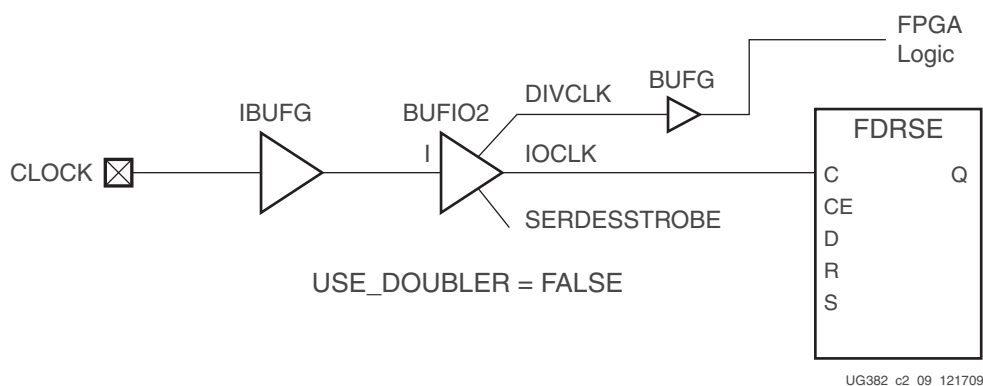

Figure 1-12: I/O Flip-Flop Clocking using BUFIO2
- Figure 1-12 uses a BUFIO2 (IOCLK) to drive the I/O flip-flop with BUFG (BUFIO2-DIVCLK) to drive FPGA logic registers. There is a routing delay through the BUFG. Works with or without IODELAY2.